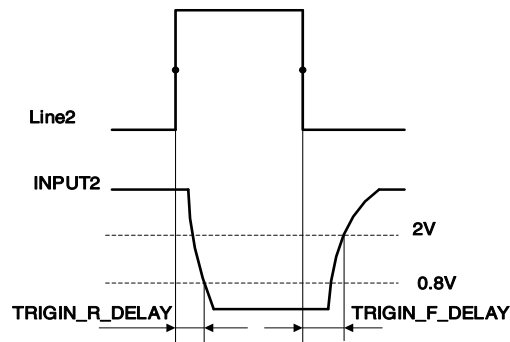

Figure 7-11 Circuit delay parameter when Line2 is configured as an input
- Input rising time delay: $<2\mu\text{s}$ ($0^{\circ}\text{C}\sim 45^{\circ}\text{C}$), parameter description as shown in Figure 7-11
- Input falling time delay: $<2\mu\text{s}$ ($0^{\circ}\text{C}\sim 45^{\circ}\text{C}$), parameter description as shown in Figure 7-11